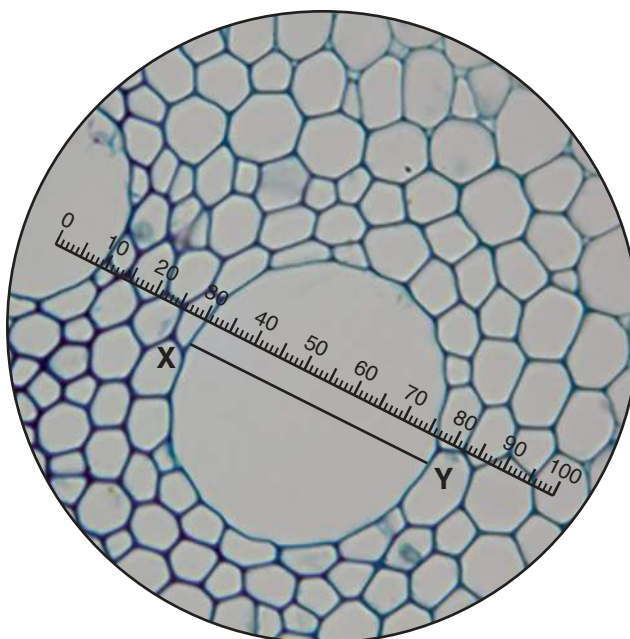

Fig. 2.3
- (c) Fig. 2.3 shows a photomicrograph of a transverse section through a different stem taken using a light microscope fitted with an eyepiece graticule.
- (ii) Use the calibration of the eyepiece graticule division and Fig. 2.3 to calculate the actual length of the line X–Y.